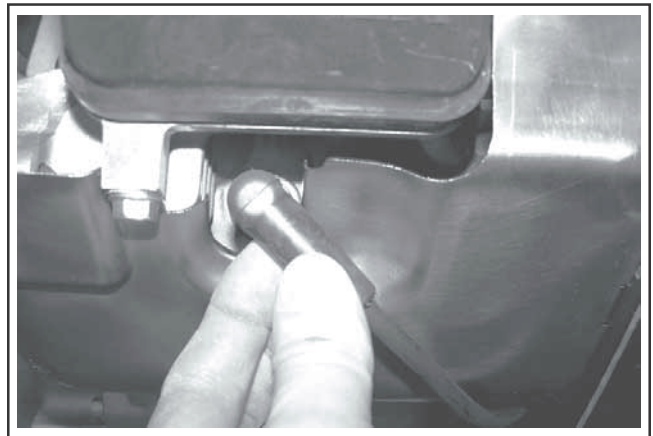

Figure 8-1. Disconnect Both Spark Plug Leads.
1. Disconnect the leads from the spark plugs. See Figure 8-1.